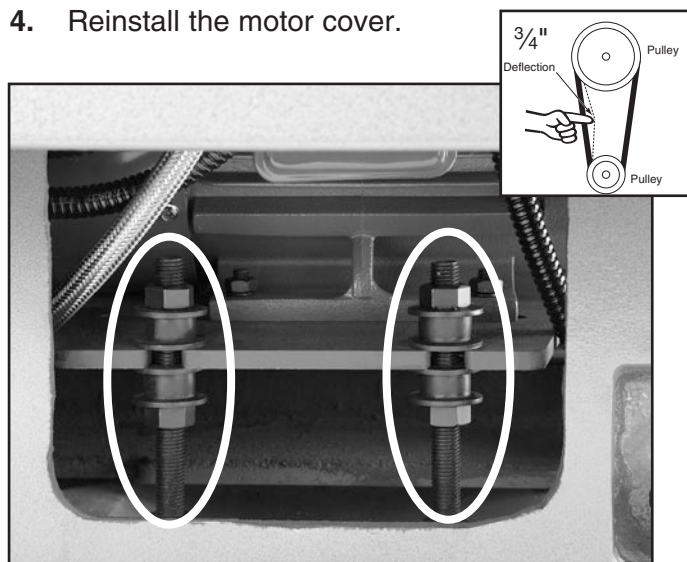

Figure 121. V-belt adjustment.
3. Use the wrench to adjust the belt tension hex nuts (see **Figure 121**). There is approximately $\frac{3}{4}$ " belt deflection on each belt when pressed firmly in the center between the pulleys.